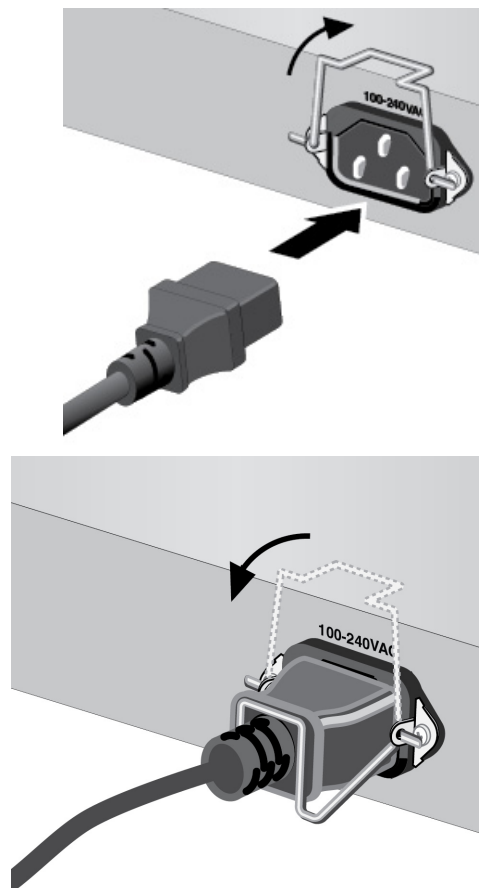

Figure 23. Plugging in the AC Power Cord
1. Lift up the retaining clip and insert the power cord into the AC power connector on the back of the media converter, as shown in Figure 23.
2. Lower the retaining clip over the AC Power Cord as shown in Figure 23 on page 47.